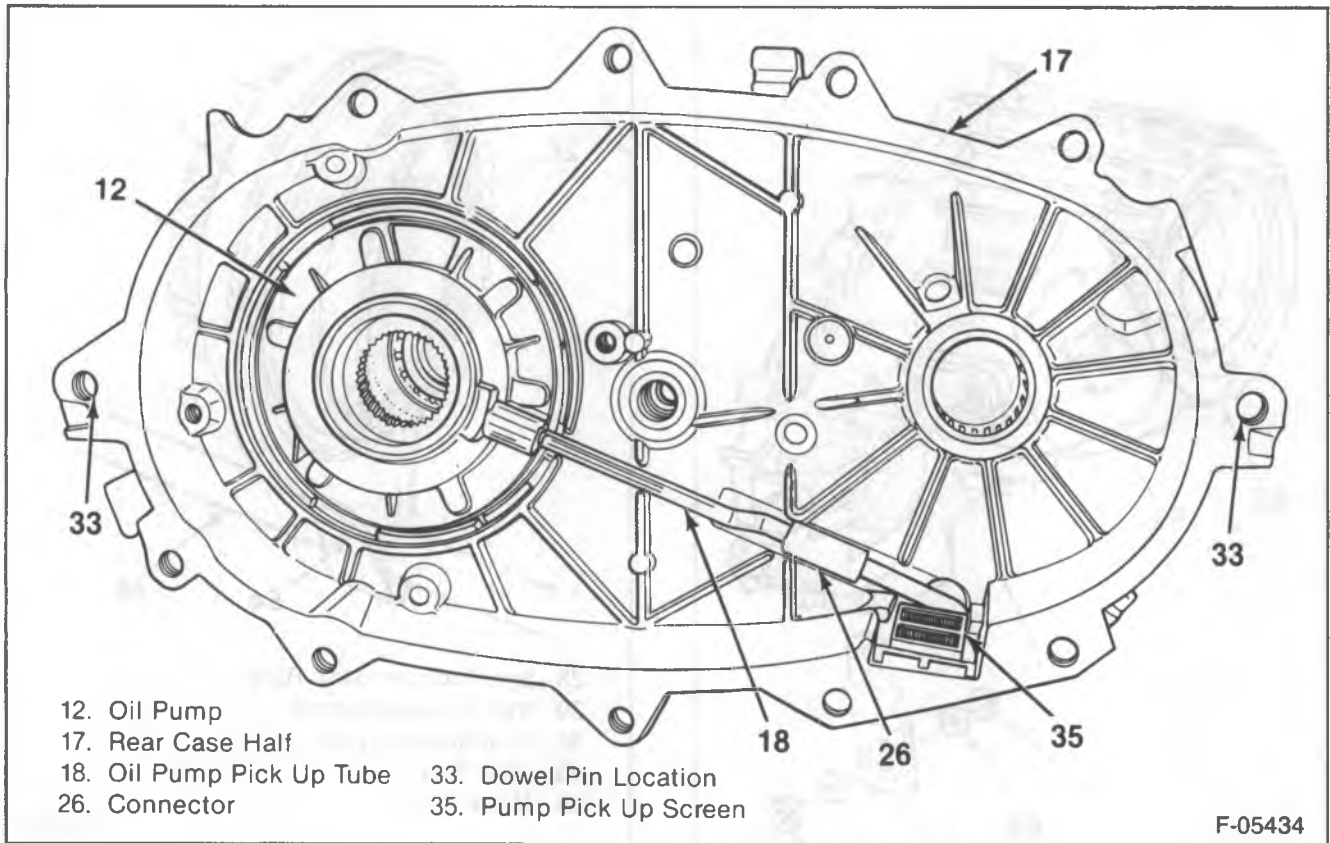

Figure 15—Oil Pump Location
11. Drive sprocket (20) and mainshaft (19) into the chain (58).
- Mainshaft (19), drive sprocket (20), driven sprocket (22) and chain (58) are installed as a unit.
12. Fork shift spring (52) onto the mode shift rail (48).
13. Oil pump pick up tube (18), oil tube connector (26) and pump pick up screen (35) into the rear case half (17) (figure 15).
14. Oil tube O-ring (14) onto the oil pump pick up tube (18).